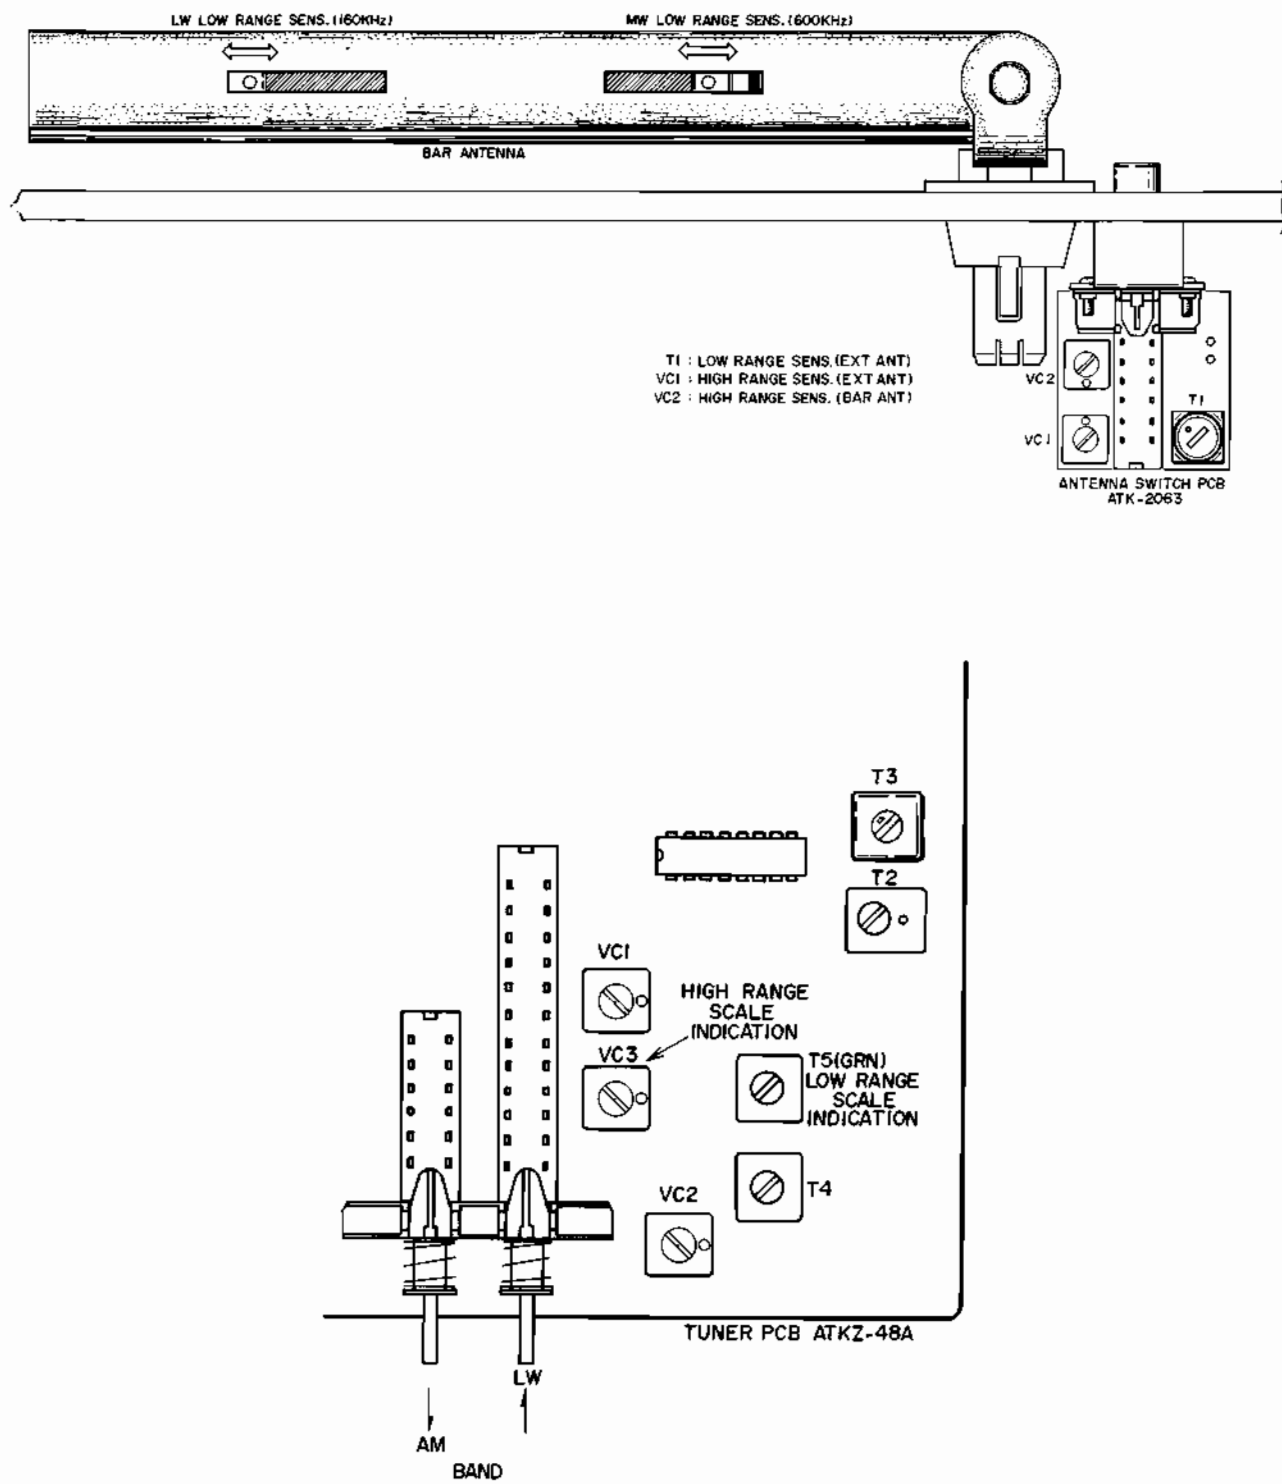

Fig. 6 Tuner P.C Board ATKZ-48A and Antenna Switch P.C Board ATK-2063 (Model AT-K33L)
3. LW SECTION ADJUSTMENTS (AT-K33L Only ; Refer to Figs. 6, 9, 10)